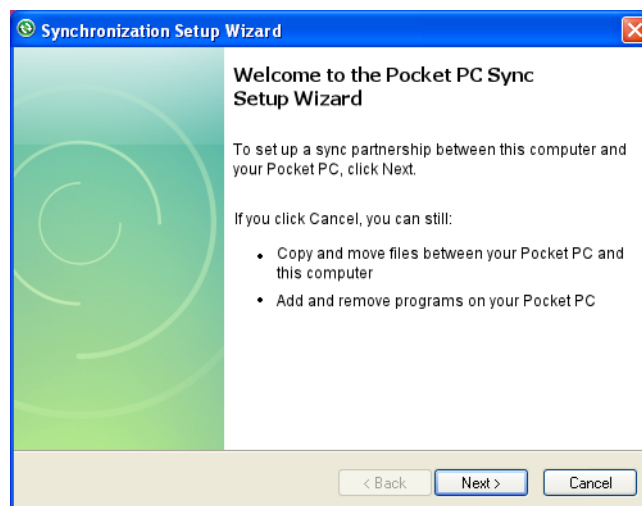

Figure 1-9. Synchronization Setup Wizard
- b When *Synchronization Setup Wizard* displays, click **Cancel** when prompted to create a sync partnership. Clicking *Cancel* allows you to create a *Guest* connection instead (Figure 1-9).